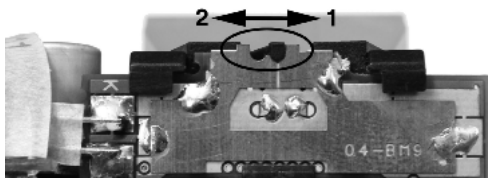

Figure 3.3 Setting the monitoring beam to the leading edge
1. Set the transmitters of the modules identically on all modules to be used (see Figure 3.3). -> For example, move all of the transmitter adjustments towards the hinge (the hinge side is opposite the leading edge).
Adjust the transmitter for left-justified or right-justified monitoring of the main leading edge. (see Figure 3.3).